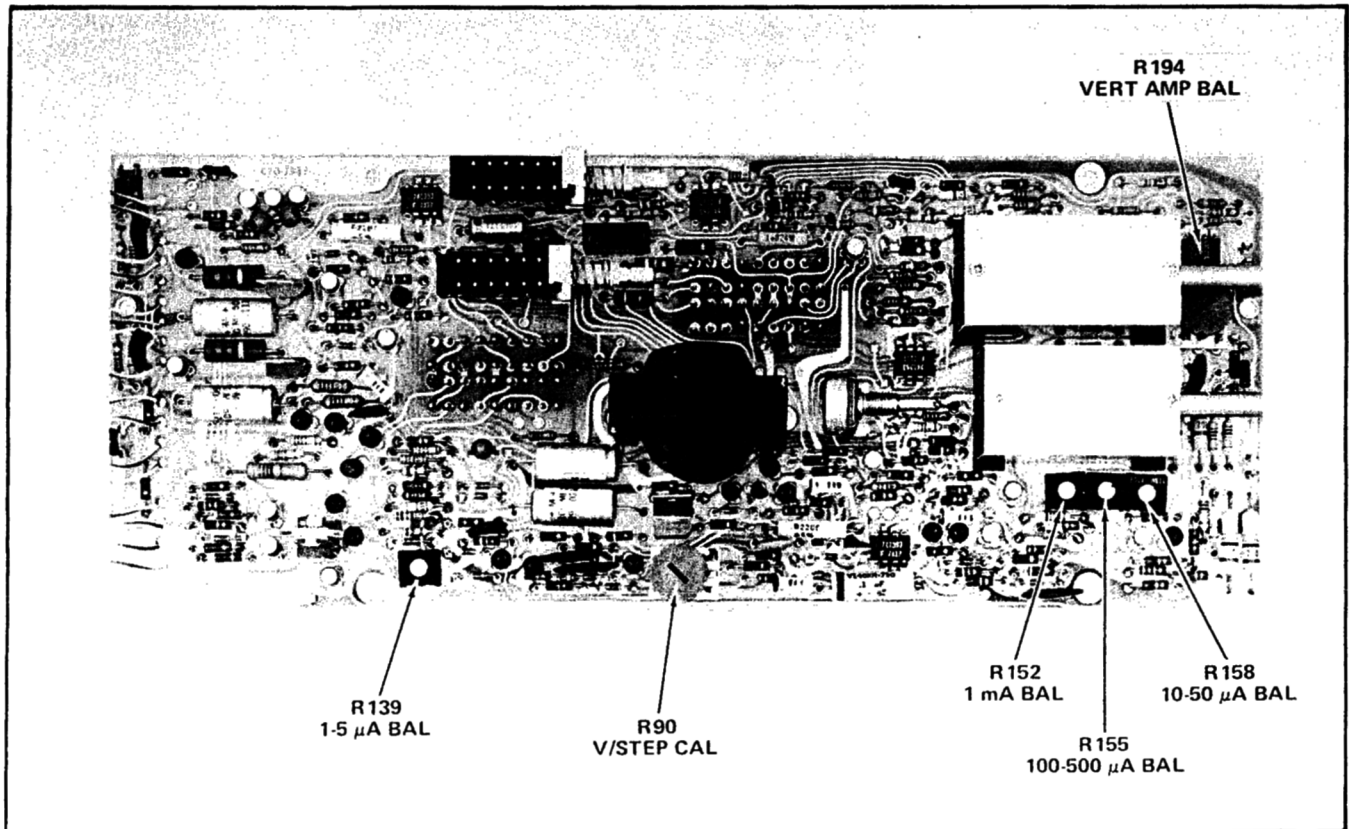

Fig. 3-1. Location of internal adjustments for the 7CT1N.
d. ADJUST—R194, the VERT AMPL BAL adjustment (see Fig. 3-1), for no vertical shift in spot between the two positions of the VERTICAL switch.
e. ADJUST—R139, the 1-5  $\mu A$  BAL adjustment (see Fig. 3-1), to move the trace to the center horizontal graticule line.